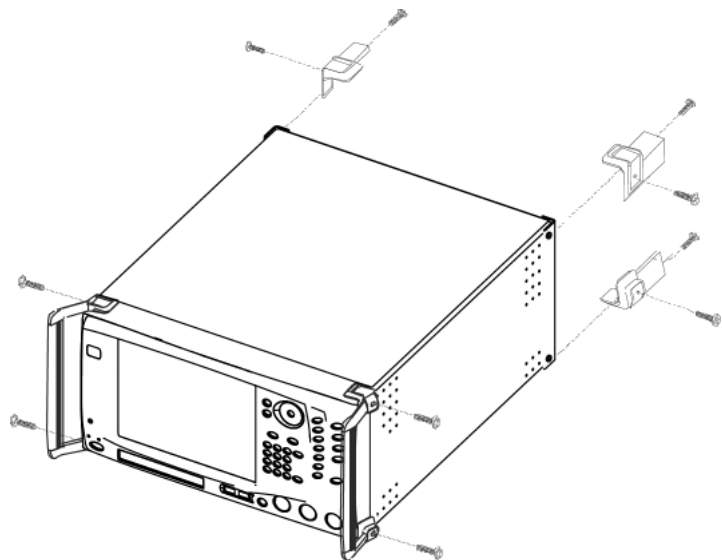

Figure 2-7. Instrument Handles and Feet Removal Diagram
- Step 3.** Using a Phillips screwdriver, remove the two front panel handles and the four feet at the rear (see Figure 2-7). Save the screws for later use.